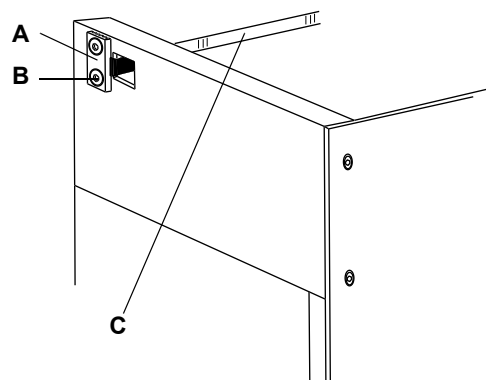

Fig. 8-83 Y-belt (rear end)
- 1 Fix the Y-belt (C) at the rear end of the RoMa with the fixing plate (A) and the fixing screws (B) as shown in Fig. 8-83 "Y-belt \(rear end\)", Fig. 8-73.
- 2 Fix the Y-belt (F) at the front end as shown in the figure.
- 3 Tension the Y-belt by means of the belt tensioning screw (C).
- 4 Secure with Y-belt lock fixing screw (D) when the adjustment is done.